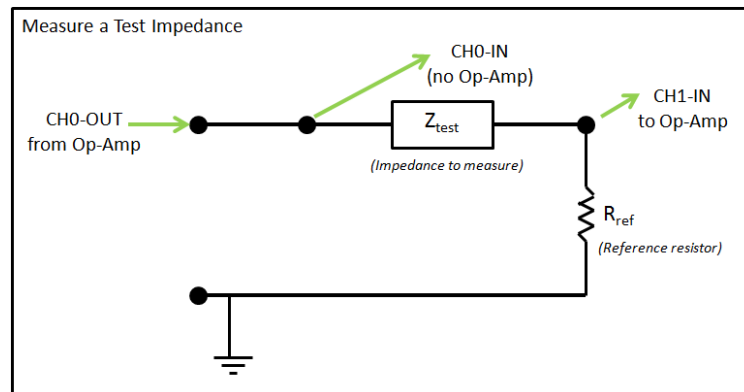

Figure 5: Circuit to measure a test impedance. The reference resistor R_{ref} should have an impedance magnitude similar to the test impedance.
2. Impedance-measurement circuit: Build the circuit shown in Figure 5, connecting to the op-
- (a) Place a “test resistor” (of known impedance) in series with the reference resistor R_{ref} . Your test resistor should occupy the place of Z_{test} in Figure 5.
- (c) Use two inputs (into the MU-box), taken across the ‘test resistor’ terminals. CH0-IN should be connected to the “high” side of the speaker, and CH1-IN connected at the place where the speaker and reference resistor are joined, as described in Fig. 5.
NOTE: Every time you set up your lab circuit for the day, we suggest that you do a quick test with a resistor, as in Lab 1 (Fig. 5) to make sure everything is running properly!!!
- If you wish to measure a **current**, you will need a reference resistor of some sort (i.e. by measuring the voltage across a known resistor, you can calculate the current). This can be like your circuit in Fig. 5, or you can measure the voltage across a known resistor inside the 2-port you are trying to characterize
In this lab you will measure the electrical input impedance Eq. 1, where V is the voltage across the speaker and I is the current through it. The loudspeaker will be in **series** like your resistor from Lab 1, so you should connect the loudspeaker according to Figure 5. The loudspeaker has two terminals; when you swap the two terminals, the polarity of the acoustic signal will change. Note the red dot next to one of the terminals. Take this as the “positive” terminal. So for some later experiments, this could make a difference in your results, but not for Lab 3. Note that these terminals represent *one* side of a two-port network - in the case of the loudspeaker, the other side of the network is the acoustical signal (pressure and volume velocity) at the loudspeaker cone.